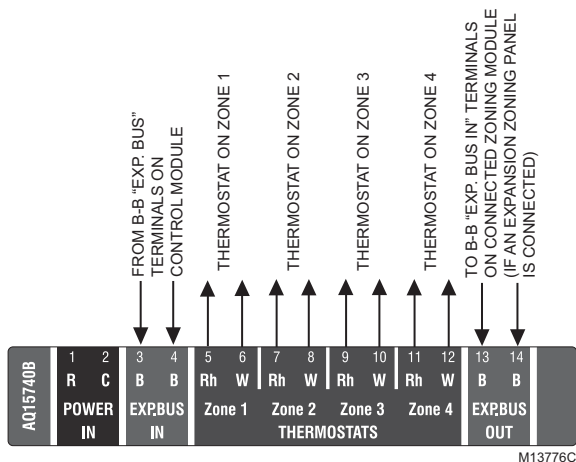

Fig. 9. Connecting AQ1000 thermostats.
- Using low voltage thermostat wire, connect one AQ1000 communicating thermostat from each zone to the corresponding TH inputs on top of the Zoning Module (see Fig. 9 on page 9).